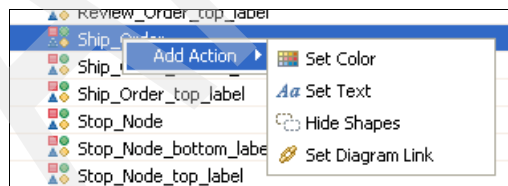

Figure 5-61 Selecting the shape action
- a. The bottom left portion of the visual editor view the Add and Edit Shape set Actions section, which contains all available SVG shapes. Under Shape Set / Action, right-click **Ship_Order** and select **Add Action** → **Set Color** (Figure 5-61).